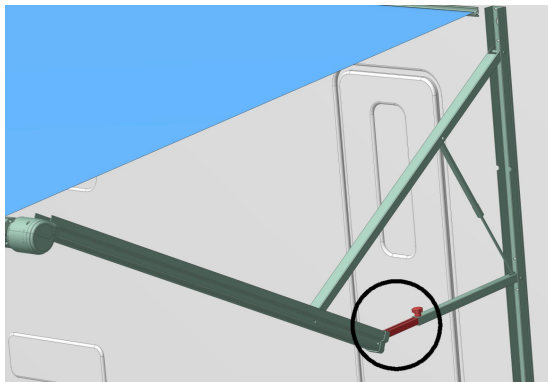

Figure E2
- In case of light rain, when using the sunshade, you can loosen the locking screw of the folding arm support rod to tilt one side of the sunshade to quickly drain the accumulated water (Figure E2).